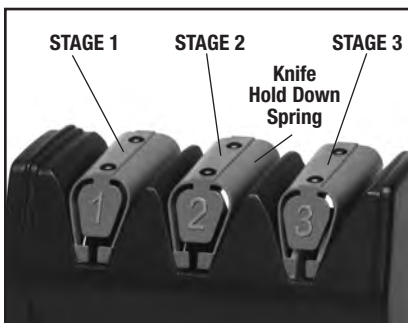

Figure 4. EdgeSelect® Sharpening Module.
The unique Chef'sChoice® EdgeSelect® Sharpening Module (Figure 4) supplied with the standard Model 2100 is designed so that you may sharpen each knife according to your intended use. This three (3) stage sharpener has two precision conical sharpening / honing stages with fine 100% diamond abrasives and one polishing/stropping stage using proprietary flexible abrasive disks. These stages can be used in different sequences to give you either an astonishingly sharp, smooth faceted edge for effortless cutting and presentations or one with a selected amount of residual "bite" along the facets. The resulting edge is ultrasharp and non-serrated. This residual "bite" is created by precisely polished microflutes that are formed on the facet surface by the ultrahoning action of the stropping disks in Stage 3. You will find that these sharp flutes created on each side of the ultrasharp and non-serrated cutting edge aid substantially in those difficult cutting chores experienced with fibrous foods, meats, stalky vegetables and dressing of game.